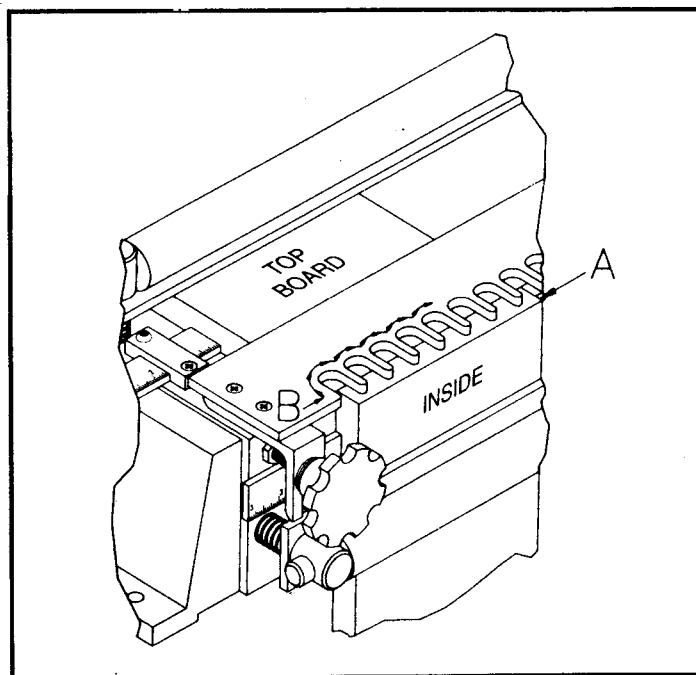

Fig. 10
- Start the motor and make the first cut along the entire outside edge of the finger templet from right to left, in the direction of the arrow (A) Fig. 10. This will prevent chipping of the edge of the drawer piece when the router is moved in and out of the templet.
- Now, carefully move the router from left to right around the templet outline, in and out of the slots as shown by arrow (B) Fig. 10.